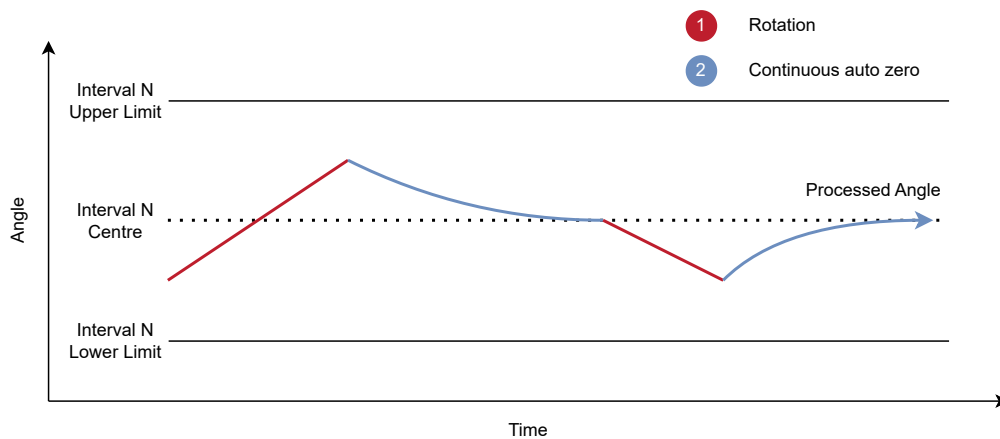

Figure 4.9: Continuous Auto-zero Behaviour
- > **Continuous:** The auto-zero filter will cause the Processed Angle to move continuously towards the centre of the current interval. It is recommended to use an auto-zero beta value of 10 or higher to allow the Processed Angle to move between intervals during slower rotations. This mode is recommended for devices without a mechanical ratchet. This behaviour can be viewed in Figure 4.9.